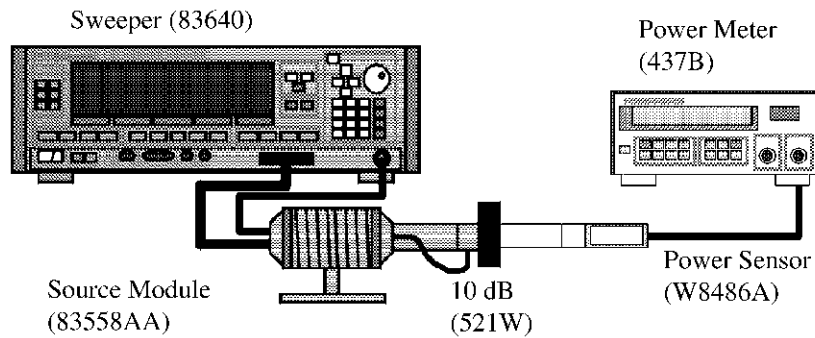

Figure 6-11 Setup of Source Module Calibration
2. Connect equipment as shown in Figure 6-11.
10. Connect equipment as shown in Figure 6-11.